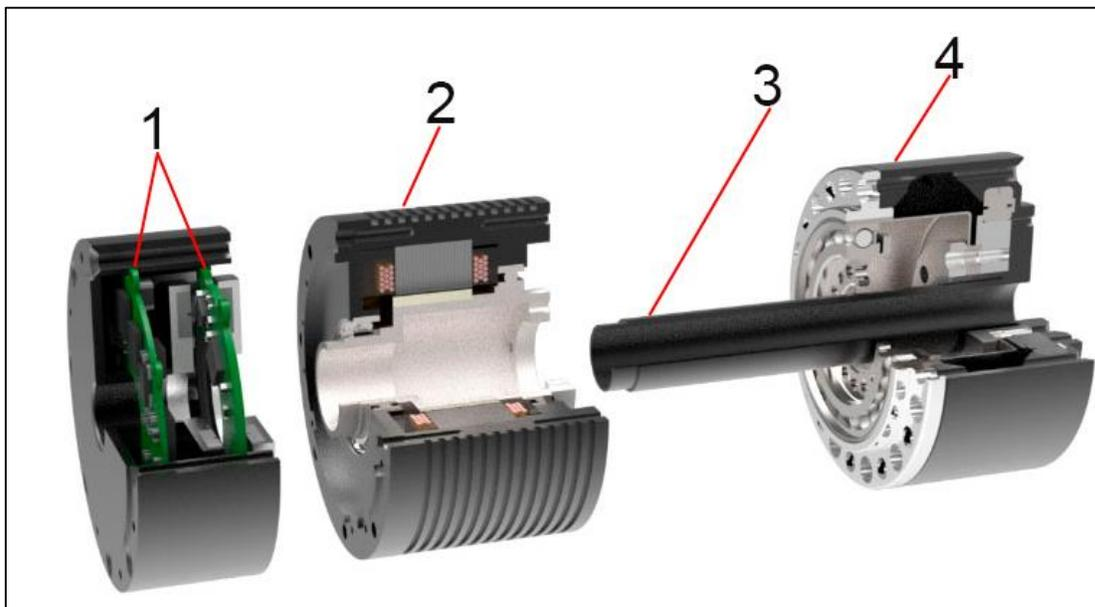

Figure 1-1: The components of an RDrive servo motor
Figure 1-1 is an exploded view of an RDrive servo motor in a housing.
(1)	Two printed circuit boards (PCBs) connected with each other by means of a BiSS line (not visible in Figure 1-1). One of the PCBs incorporates a controller and the other—two encoders.
(2)	A frameless brushless alternating current (AC) motor comprising a rotor and a stator, as well as a negative temperature coefficient (NTC) thermistor (fitted into the stator winding).
(3)	A hollow shaft for laying the cables to connect the servo to a machine.
(4)	A strain-wave gearhead that reduces rotation speed (RPM) and increases motor torque.
By design, the RDrive servo motor also comprises a **cable gland** (not visible in Figure 1-1) located on its rear flange. The gland includes four wires: